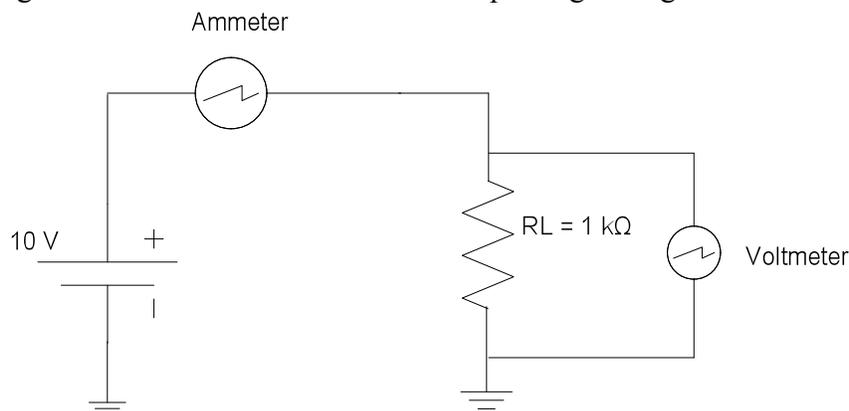

Figure 1 Measurement of current and voltage
15. Connect the circuit as shown in Figure 1.